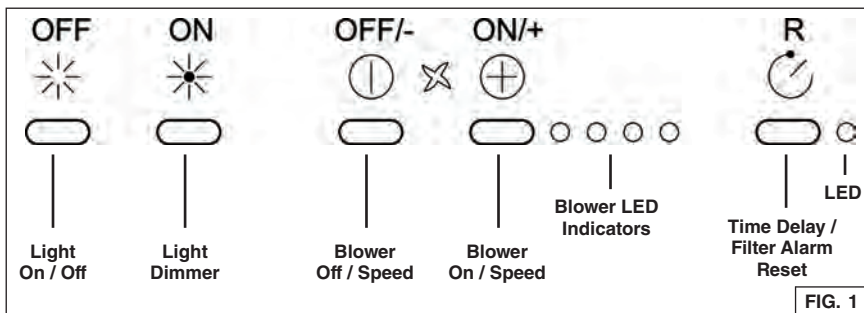

FIG. 1
The hood is operated using the (5) push buttons located on the front edge of the hood. Fig. 1.